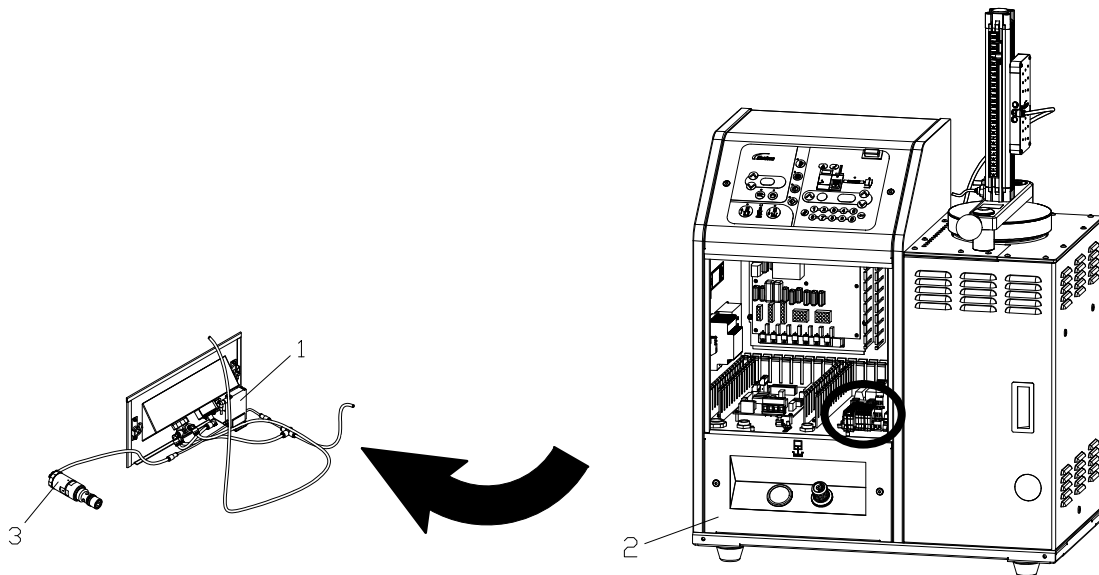

Figure 3-8 Connecting a signal to the I/P transducer for the pressure control P option
See Figure 3-8. Connect a customer-supplied 0-10VDC supply control signal to the I/P transducer (1) located on the inside of the drive cover assembly (2). Refer to Table 3-4 for the wiring connections.